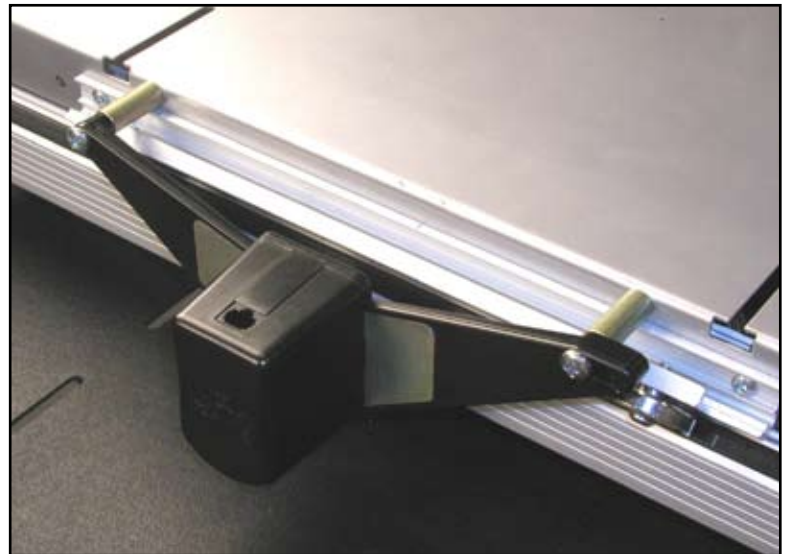

FIGURE 5.
Mount the other drive assembly to the upper carriage using (2)  $\frac{1}{4}$ " X  $2\frac{1}{2}$ " long screws, (2)  $1\frac{1}{4}$ " long spacers, and (2) nuts as shown in Figure 5.